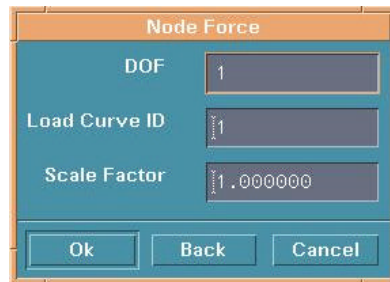

Figure 6.6.3 Define Node Force
- Define node force see Figure 6.6.3.
- Select OK in Figure 6.6.3 to select the nodes to load. See Figure 6.4.2 for selecting nodes.
- Select CANCEL in Figure 6.6.3 to exit.